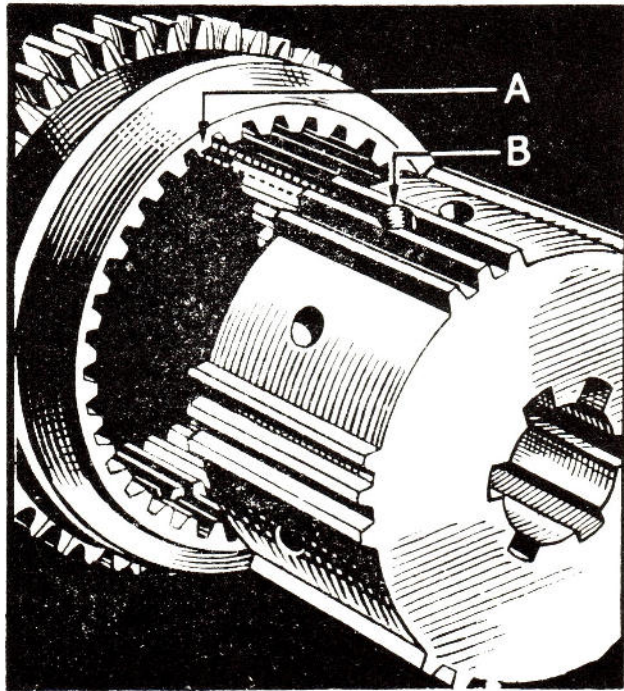

Fig. 43. Engagement of gear wheel and second-speed synchronising sleeve.
3. When **re-assembling the synchro units** it is particularly important to replace any synchro spring packing shims which were originally in position to ensure correct resistance to relative motion between the two sleeves. **When fitting up the "First" and "Second" (Four Speed Box) Synchro unit**, insert the coned end of the synchro sleeve with the ball and plunger hole "B" in line with the relieved spline "A" (Fig. 43) of the operating sleeve and leave over the fitting of the ball and plunger until this unit is fitted to the mainshaft.
6. When refitting "First" and "Second" synchro unit to mainshaft first insert ball and then the plunger into hole "B" (See Fig. 43) with the flat end of the plunger against the ball, fit these from the inside of the synchro sleeve. Smear these items with grease to secure in position whilst the unit is being re-assembled on mainshaft. **Failure to fit this ball and plunger will tend to allow the synchro sleeve to creep into engagement with the cone on the "Second" gear and if these are not correctly aligned with the relieved spline on the operating sleeve there will be difficulty with engagement of "Second" gear.**